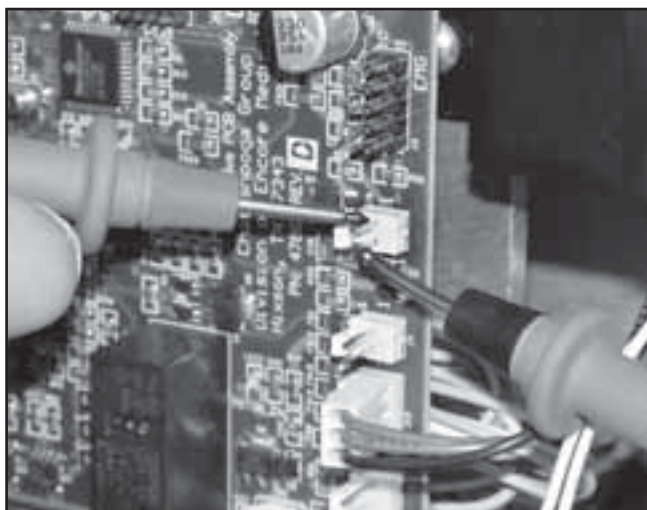

FIGURE 5.15
- c. Set Multimeter to read 24 VDC and connect leads to the J8 connector pins. See Figure 5.15.